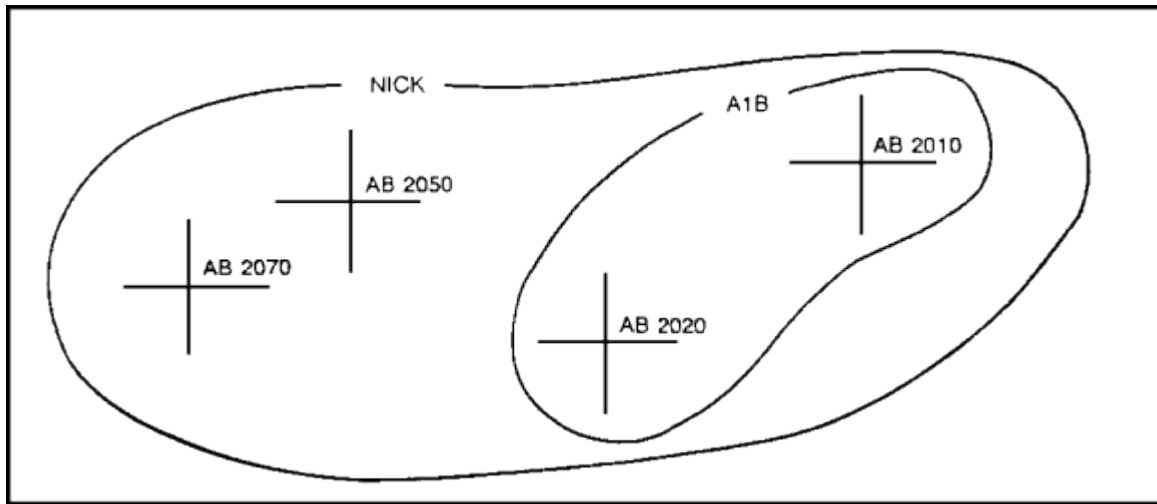

Figure 1-47. Target type
Situation: You are the commander of a mechanized infantry battalion rifle company (M113). You are considering task force functions in regard to the seven battlefield operating systems that you must integrate to support your commander's intent. Use this situation and Figures 1-47 and 1-48 to answer the questions in this exercise.
5. You and your FSO are discussing possible targets. The FSO refers to one represented by the symbol shown in Figure 1-47. You identify this target as which of the following types?
6. As an offensive application, you direct that the type of target represented by the symbol shown in Figure 1-47 be